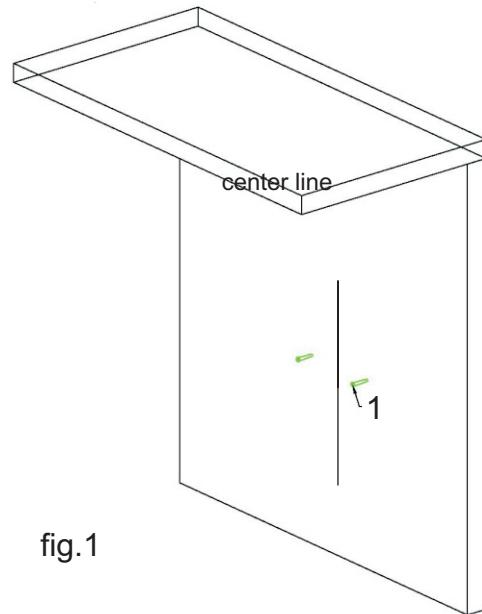

fig.1
**Step one:** Find the center of the wall where you are installing the hood. Make sure there is sufficient bracing to hold the weight of the hood. Mark your center line and measure out from center to find your two mounting points. Make sure your mounting points are level when you mark them. It is recommended to install the hood directly into wood supports. fig 1
**Step two:** Mark your mounting points and install the two mounting screws provided leaving the heads out  $1/4"$  to mount hood. fig 1